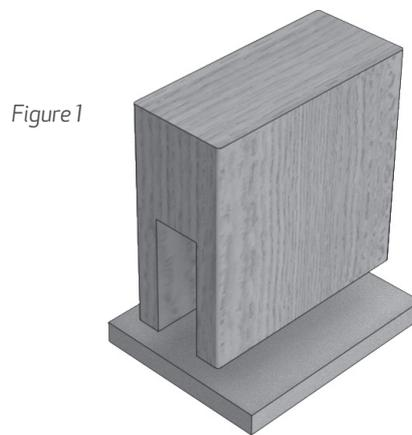

Figure 1
**Step 4** Fit a suitable cutter to the router and set guide. Machine a 22mm wide by 54mm deep groove along the bottom of the door. See Figure 1.